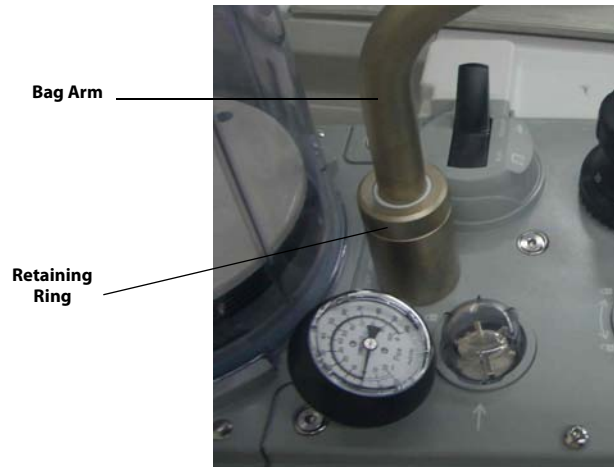

FIGURE 7-15 Bag Arm Removal
1. At the base of the bag arm, locate the retaining ring. Turn the ring counterclockwise until it is no longer threaded. Lift the bag arm from the breathing system block (see FIGURE 7-15).